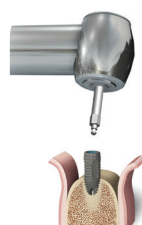

Fig 7.0
2. Use of handpiece (Fig 7.0). Set the motor to 50RPM and 45NF and activate motor until the implant reaches 0.5mm subcrestal level.
d. Place implant in osteotomy area at 35NF and rotate implant into its position (Fig 7.0). position implant into osteotomy prepped area, **IMPORTANT** make sure to apply vertical pressure to activate the knife-edged thread of the implant for smooth penetration.